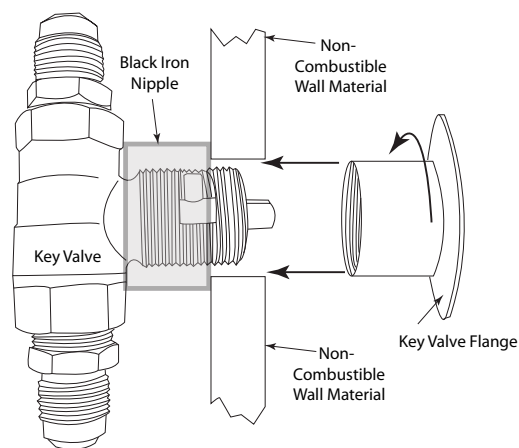

Fig. 7 Typical installation.
3. The primary gas shut-off (not supplied) will require a ⅜” male flared fitting to enable connection of the stainless steel flex gas line supplied with the fire pit (see Fig. 7 page 10).